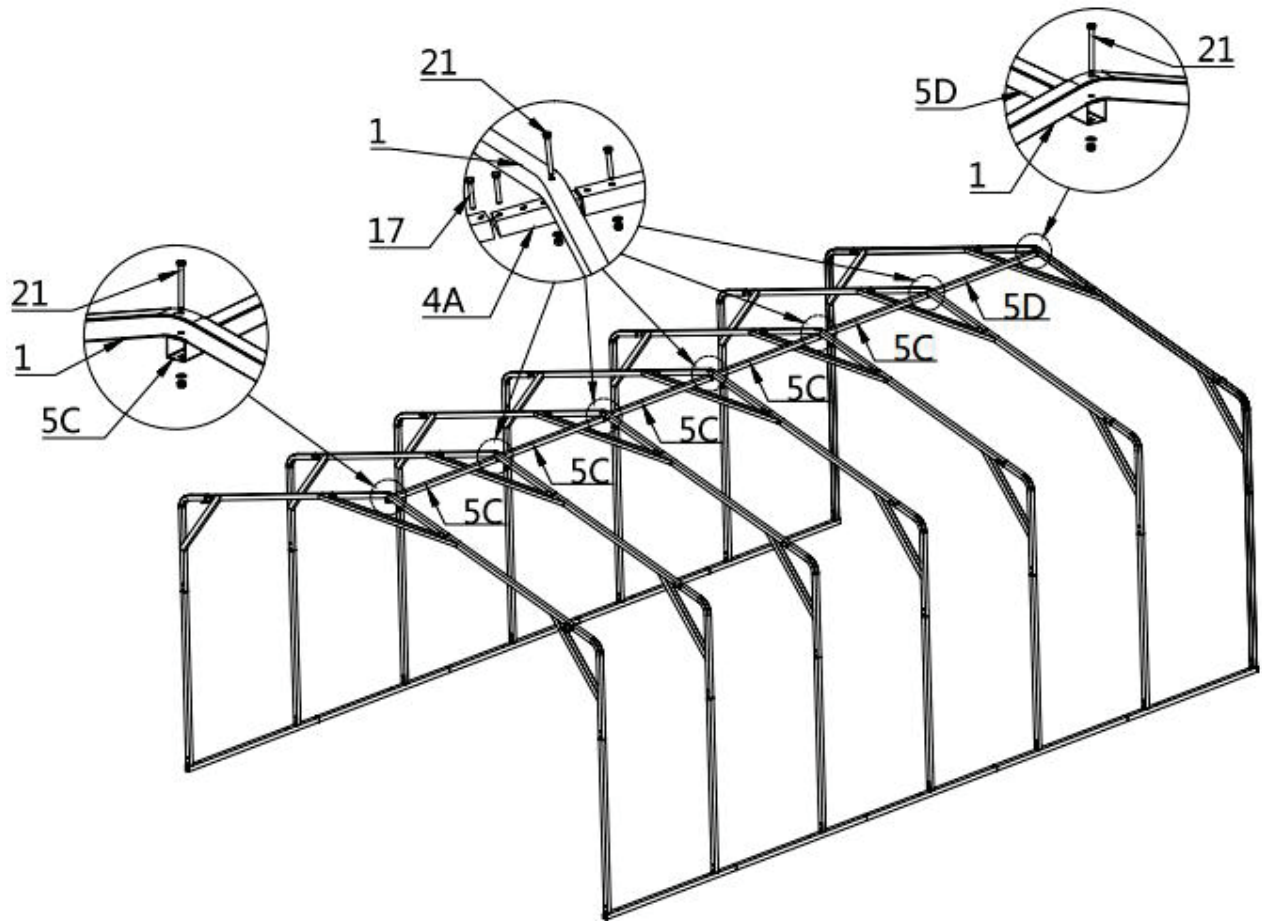

Figure 7
- Install top cross bar A (#5C) and top cross bar B (#5D). Use (#21) and (#17) Hexagonal bolt fixation (refer to figure 7).